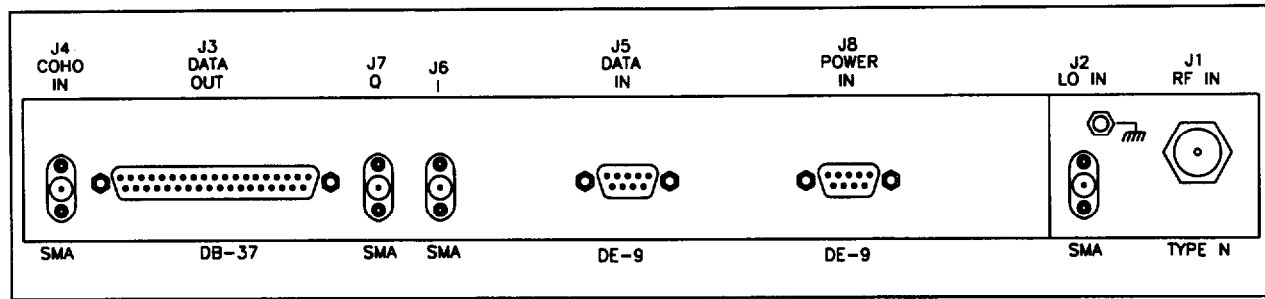

Figure 1 Type 2 Receiver Rear Panel
3. Reconnect the interface cables to connectors J2, J3, J4, J5, and J8 on the rear panel of the receiver (Figure 1).